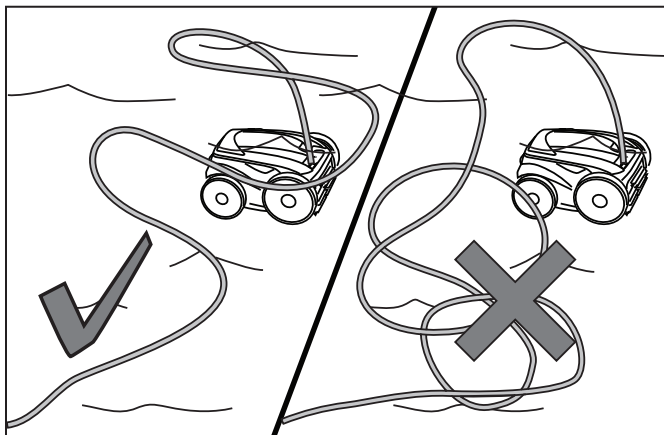

Figure 15. Spread Floating Cable Over the Pool
3. Spread out the floating cable over the pool, ensuring there are no kinks or coils in the cable (Figure 15).